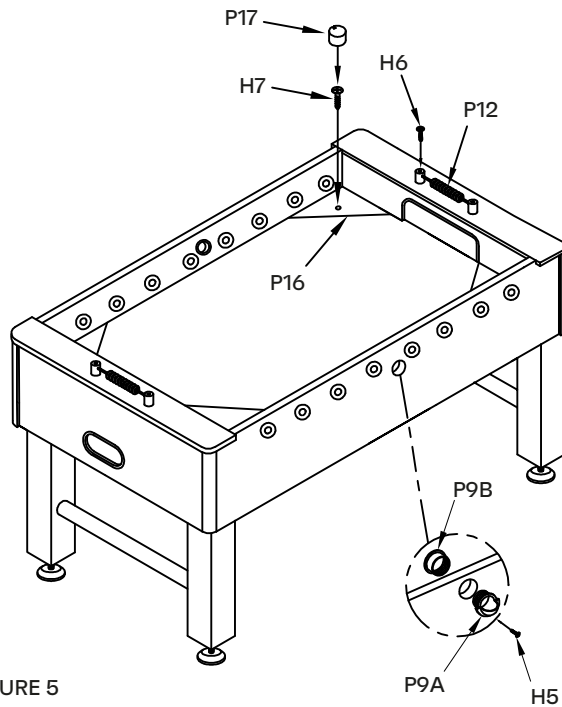

FIGURE 5
9. Attach ball entry cups P9A and ball entry socket P9B to the side panels with screws H5 as shown in figure 5. Attach the two sets of slide scorer P12 to the end of table with screws H6. 10. Place the triangles P16 on the corner of playing surface using screws H7, then insert the plugs P17 to cover the hole.